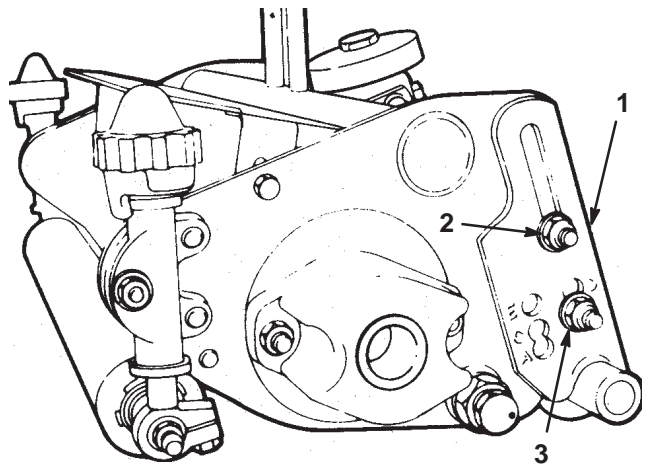

Figure 3
2. Assemble the rear height-of-cut brackets to the desired position. Loosen the top capscrew and nut and remove the bottom nut and bolt on the right and left-hand sides of the cutting unit (Fig. 3).